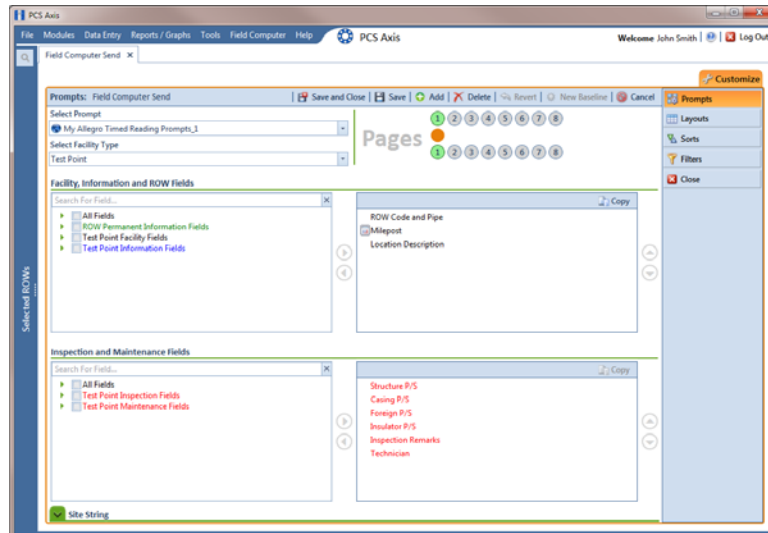

Figure 8-21. Prompts
- 9 Verify the name of the new theme displays in the **Select Prompt** field. If not, click the down arrow and select the theme in the selection list (Figure 8-21).
- b Double-click one or more fields in the selection list to move fields to the right pane. All fields listed in the right pane are included in the prompt theme (Figure 8-21).
- a Double-click **All Fields** in *Inspection and Maintenance Field* (Figure 8-21).
- a Click the  **Site String** tab to view a list of fields available for selection (Figure 8-21, page 371).